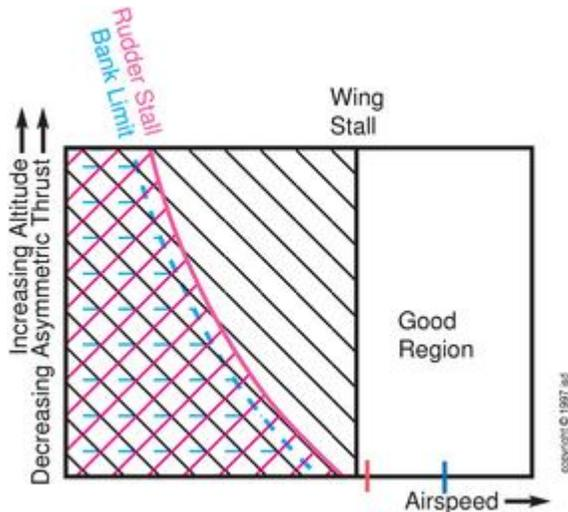
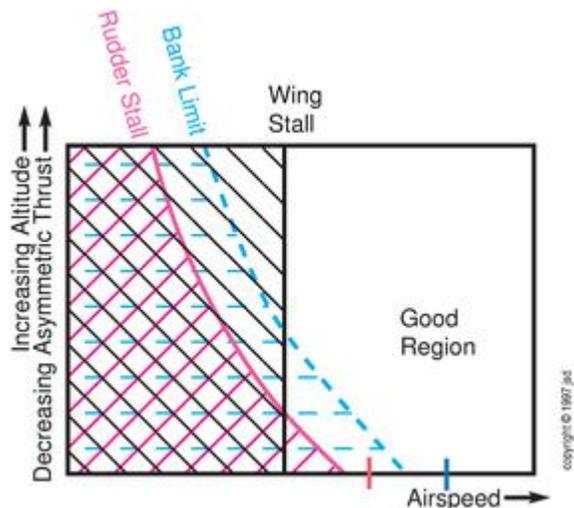
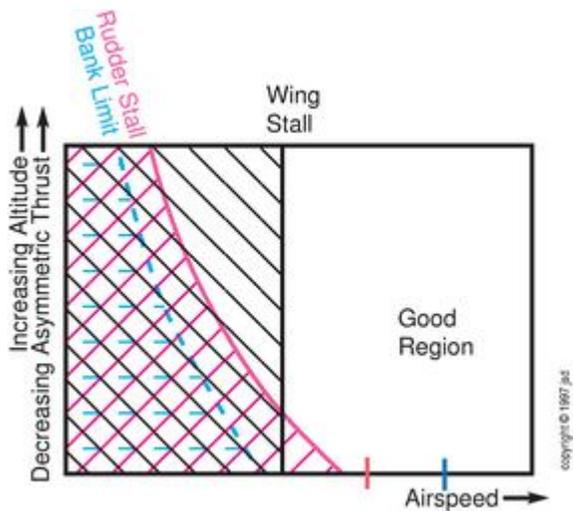
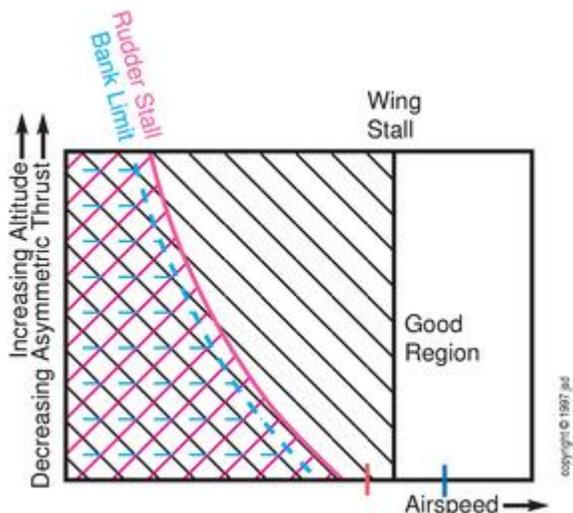

Figure 17.6: Speed & Altitude affect Directional Control (basic)
Figure 17.7: More Flaps, Less Weight, etc.
Figure 17.8: More Bank
Figure 17.9: Certified Flaps Not Used
- a) In some airplanes, under some conditions, you can maintain control, even with an engine out, right down to the point where wing stalls. This is discussed below in conjunction with figure 17.6. A stall with asymmetric thrust could be rather sudden and nasty.
- b) In others (with a smaller rudder, larger wing, and/or higher-thrust engines), there will be conditions under which the rudder will stall before the wings do, as is discussed below in conjunction with figure 17.8. A rudder stall could be very sudden and very nasty.
- c) In yet others (larger rudder area but a shorter tail-boom, so that the rudder is closer to the wings), there will be situations where neither the wing nor the rudder is stalled, but the boat-turn forces are so large that it requires more than 5 degrees of bank to counteract them and maintain nonturning flight. The airplane would be perfectly controllable if the bank were not limited to 5 degrees. Since a bank of 15 or 20 degrees is not particularly dangerous, the 5 degree limitation must be considered arbitrary. If your airplane, at a given weight and altitude, does run up against this limitation, the resulting "loss of control" is neither sudden nor nasty. The airplane will just make a gentle boat turn toward the dead engine, as is discussed below in conjunction with figure 17.7.
Let’s discuss an example; call this example #1. It is a non-turbocharged airplane for which the handbook calls for flaps retracted during takeoff. Then, under standard conditions (takeoff configuration, maximum weight, etc.), the situation is shown in figure 17.6. The single-engine stall speed for the example airplane is shown by a black vertical line in the middle of the figure. The FAR 23 red-radial-line is shown as a bright red tick mark on the airspeed axis. The manufacturer had to set it a knot or two above the stalling speed, since that is what limits the low-speed handling for this airplane in this configuration.
These new conditions have several consequences. For starters, the reduced weight will lower the stalling speed. Extending the flaps lowers the stalling speed some more. This is indicated by the black line, which moves to the left as we go from figure 17.6 to figure 17.7.
At the reduced weight, less lift is needed for supporting the weight of the airplane. As always, the horizontal component of lift, at any particular bank angle, is proportional to the weight of the airplane. Therefore, at any particular bank angle, you have less ability to oppose a boat turn. This is one reason why the cyan dotted curve moves to the right as we go from figure 17.6 to figure 17.7.
And of course, if you limit yourself to a smaller bank, you will run up against the bank limit sooner. This is the third reason that the cyan curve moves to the right as we go from figure 17.6 to figure 17.7.
Conversely, if you allow yourself a large bank (15 or 20 degrees) you can push the dotted cyan curve very far to the left, as indicated in figure 17.8.
Now let's consider what happens in different airplanes. For example #2, let's consider an airplane that has somewhat smaller wings. To compensate, the manufacturer specifies that flaps are to be extended in the certified takeoff configuration. The result is that the certified performance of the new plane is identical to the performance of example airplane #1, as shown in figure 17.6. The interesting wrinkle is this: if you fly the new airplane with flaps *retracted*, the performance is as shown in figure 17.9. Note the higher wing stall speed. The airplane will become uncontrollable at an airspeed well above the FAR 23.149 red-radial-line.
For example #3, let’s take an airplane where the wing has a very low stalling speed. For such a plane, figure 17.6 never applies; figure 17.7 (or figure 17.8, depending on bank angle) applies even at max weight with the flaps retracted.
- If you want to demonstrate the gentle boat turn, you can *arrange* that it occurs before any of the nastier alternatives, as suggested in figure 17.7. You just have to put sufficiently strict limits on the bank and rudder deflection. Reduced weight helps, too. Turbocharging makes it easier to perform the demonstration at a safe altitude.